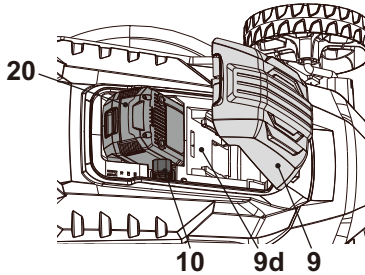
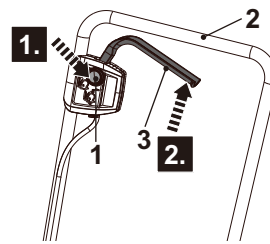

Fig. 18
Fig. 19
2. Insert the safety key (10) into the slot fully (Fig. 18).
3. Close the battery cover (9) and stand behind the grip handle (2).
4. While holding the safety switch button (1) pressed (Fig. 19, step 1), pull the start lever (3) towards the grip handle (2) (Fig. 19, step 2).
5. After the mower starts, release the safety switch button (1).
7. Release the start lever (3) to stop the mower